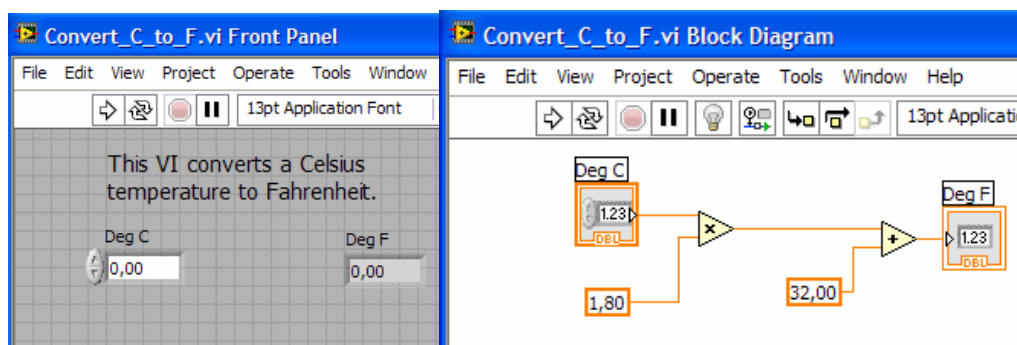

Figure 2. LabVIEW *Front Panel* on the left and *Block Diagram* on the right
- LabVIEW has 2 panels: *Front Panel*, it is the user interface, and *Block diagram Panel* where the graphical code can be written (Fig.2). Fast switching between the two panels: **Ctrl+e**. By right clicking on the *Block diagram Panel*, the *Functions palette* can be reached and the graphical elements can be placed on the panel ~ writing the code. By right clicking on the *Front Panel*, the *Controls palette* can be reached to place input and output fields on the panel ~ creating the user interface.